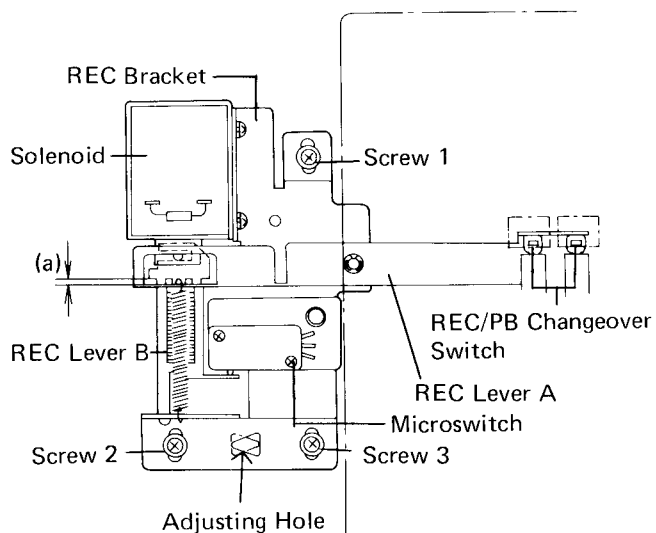

Fig. 13
1. With the unit in the recording state, as shown in Fig. 13, the clearance (a) between recording lever A and the shoulder of B should be the same both on the left and on the right, at $0.5 \text{ mm} \pm 0.2 \text{ mm}$. This adjustment is made by slackening screws 1, 2 and 3, and inserting a (-) screwdriver through the adjusting hole. (The REC bracket has some freedom to rotate, and it should be adjusted to give the same value of 'a' on left and right.)